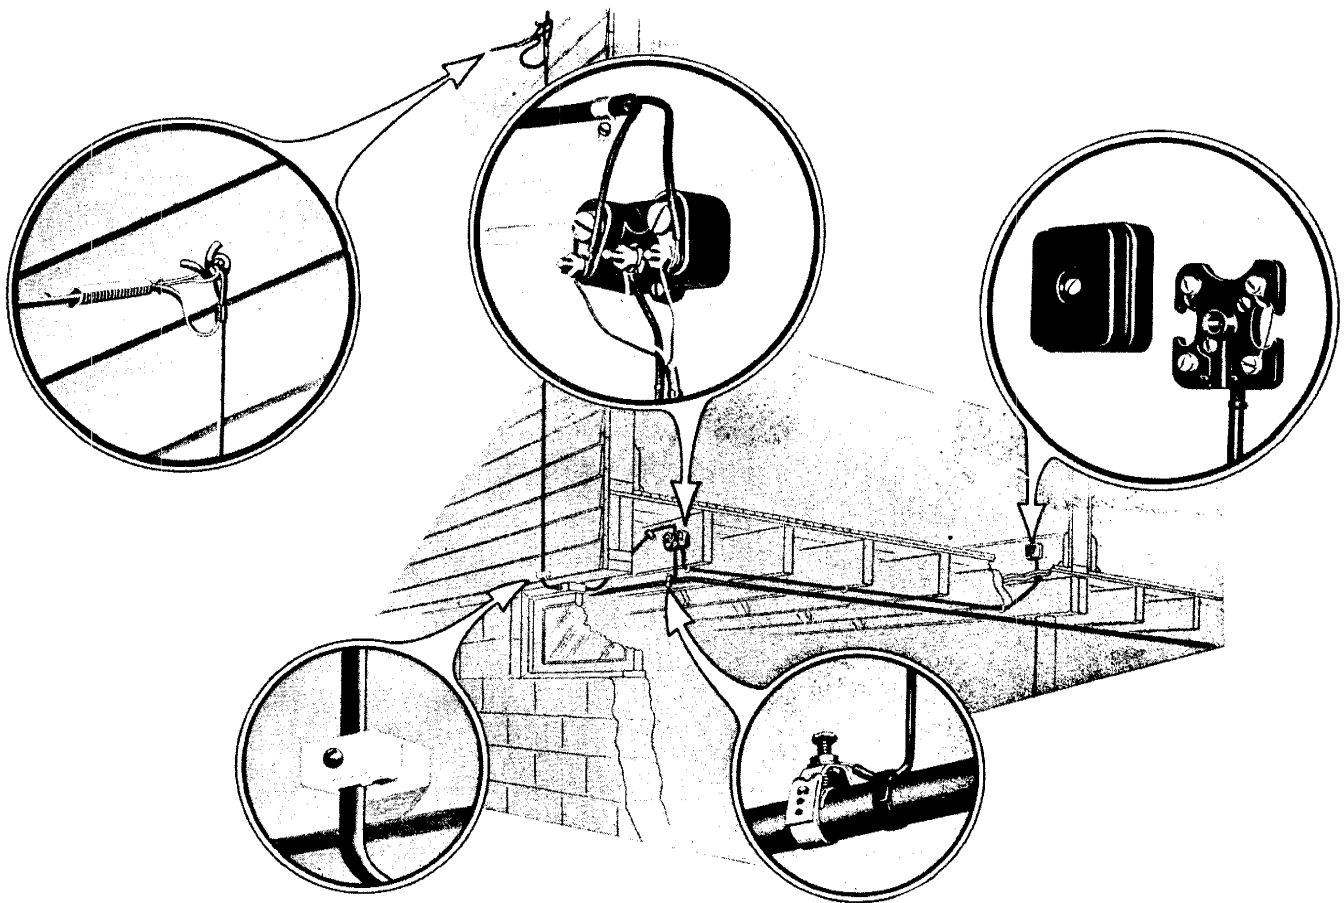

Fig. 1 — Typical Wiring Routes
1.02 Fig. 1 shows the various points which should be considered in selecting routes for wires. Consideration should be given to the location of the telephone, protector, and ground clamp, as well as to the drop wire and point of entrance, before planning the wire route.